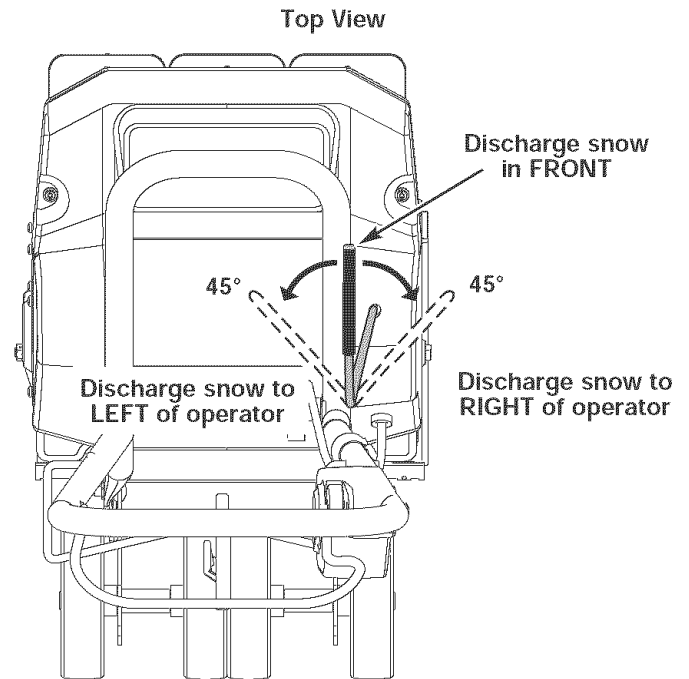

Fig. 7
3. Turn the discharge directional control to the left, the center or the right, depending on which direction you want to throw the snow (Fig. 7).